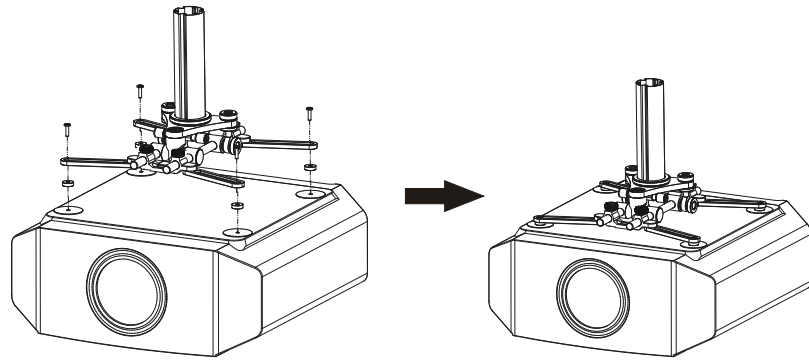

Figure 5
4. Fix Spider ROYAL the GPCH mounting feet to the projector according to the distance between the holes of the projector, as shown in Figure 5. The figure takes the standard pole four feet as an example. If the projector has only three holes, one of the mounting feet can be removed and then installed.